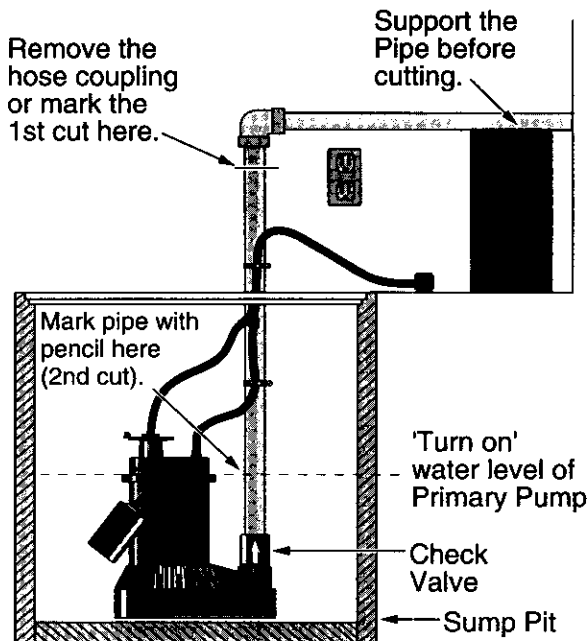

Figure 1 – Mark and cut the pipe as shown
1. Locate the "on" water level of the primary sump pump. Mark this location on the discharge pipe with a pencil. See Figure 1.